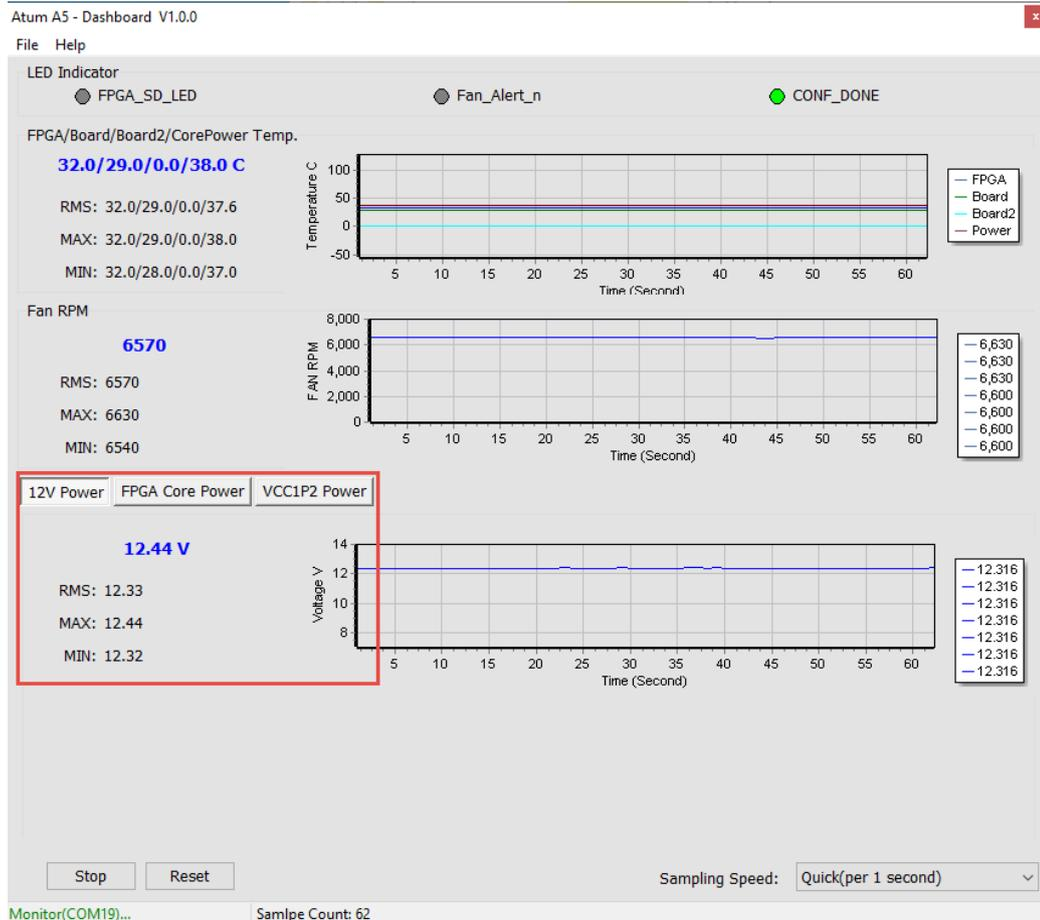

Figure 3-12 Power Monitor Section
- **12V/ FPGA Core/ VCC1P2 Power monitor:** It displays the real-time 12V /FPGA/ VCC1P2 Power voltage and consumption current on the Atum A5 board, as shown in **Figure 3-12**.